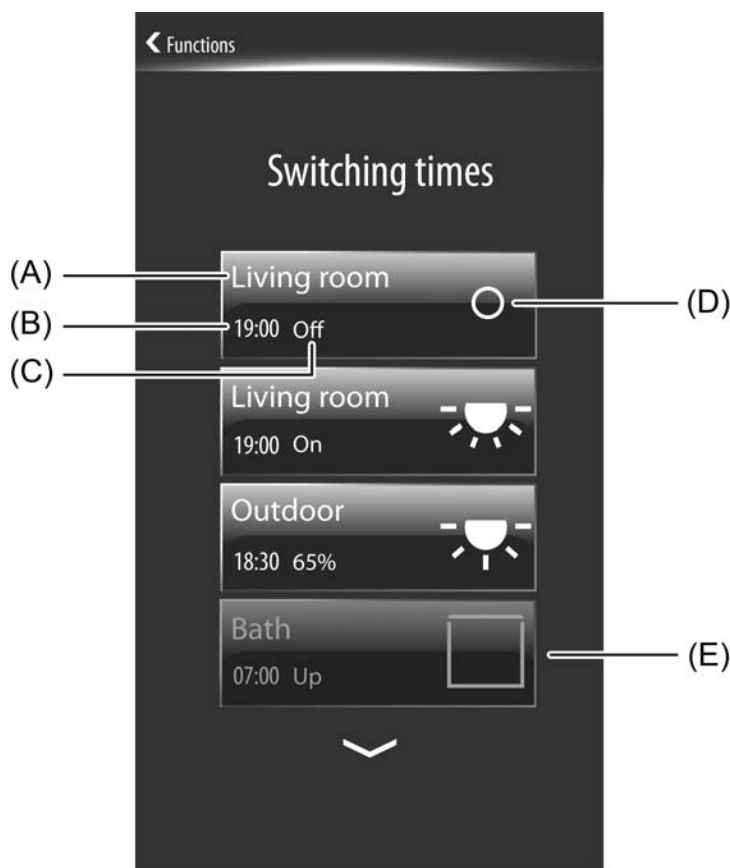

Figure 104: Example of display elements of the sensor elements in the Switching times overview
The sensor surfaces of the switching times visible in the display have different display elements (figure 104). For this reason, each switching time is indicated by the room name (A) to identify the area of operation (e.g. "living room", "kitchen"). This room name is specified by allocating the KNX channels to the existing rooms (parameter "room" in the parameter node of a channel). In addition, the enabled switching time is indicated (B) in the sensor element. A status text (C) to the right of the switching time indicates which channel command with an active switching time is being executed for the specified time. The executable channel commands are dependent on the configured function of the allocated KNX channel (see page 210-211). A status icon (D) is also displayed on the right-hand side of the sensor elements. Just like the status text, the icon also indicates the channel command to be executed in graphic form. In some channel functions the icon can be changed if required and thus adapted to the activated KNX function. In the sensor element of a switching time, the symbol selected by the ETS configuration of the allocated KNX channel is always used.
Deleted switching time are inactive and are removed from the switching time overview (figure 104). As a result, it is possible that the overview will display a lower number of switching times than the maximum 8 available.